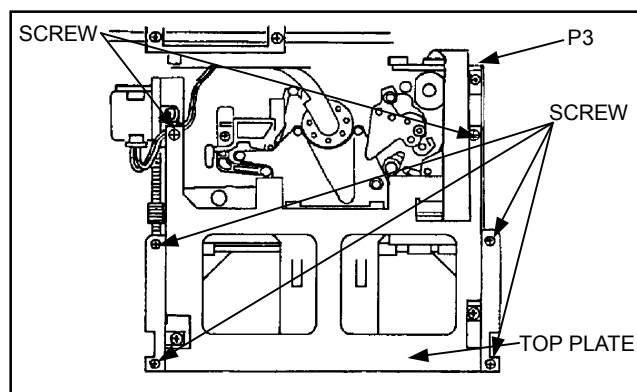

Figure 3-4-1
2. Unscrew the 6 screws and remove the Top Plate on the Front Loading Unit as shown in figure 3-4-1.
3. Unscrew the 6 screws and remove the Top Plate on the Front Loading Unit as shown in figure 3-4-1.